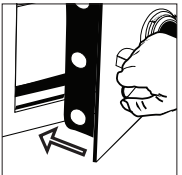

Figure 1
1. Close door and Rotate the handle counter-clockwise to the left (Figure 1 and Figure 2).